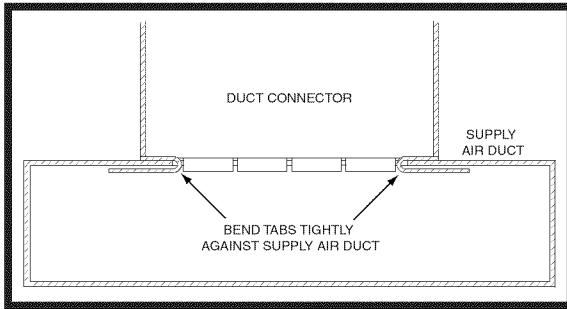

Figure 10. Duct Connector Tabs
8. Bend both tabs on the mounting plate up 90°. See Figure 10, (page 10)